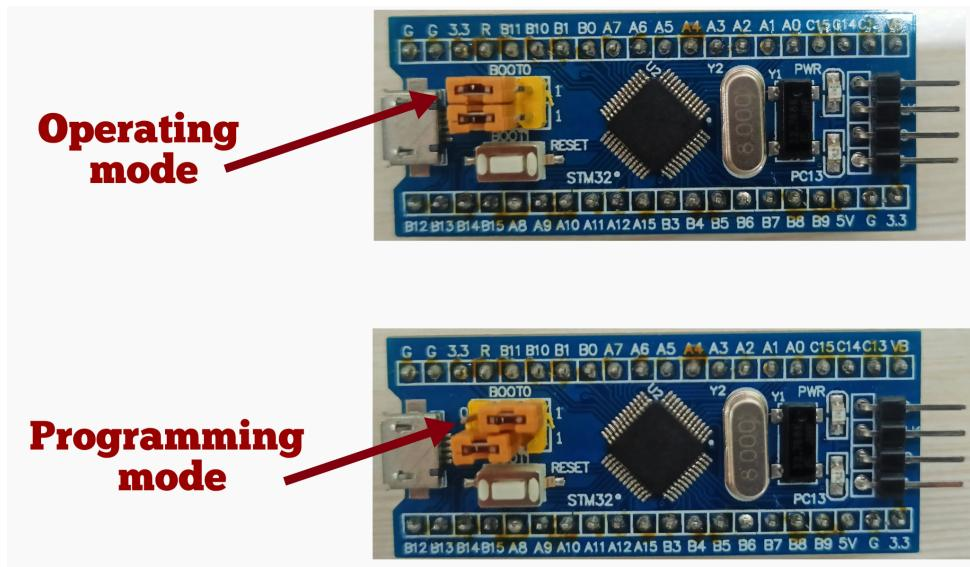

Fig. 12.2: STM32 Operating and Programming mode
8. See how to enable programming mode in Fig. 12.2. This configuration will ensure that the microcontroller enters the system memory programmer on reset.
11. Change the STM32 board to operating mode as shown in Fig 12.2 in order to run your code from the main flash memory.